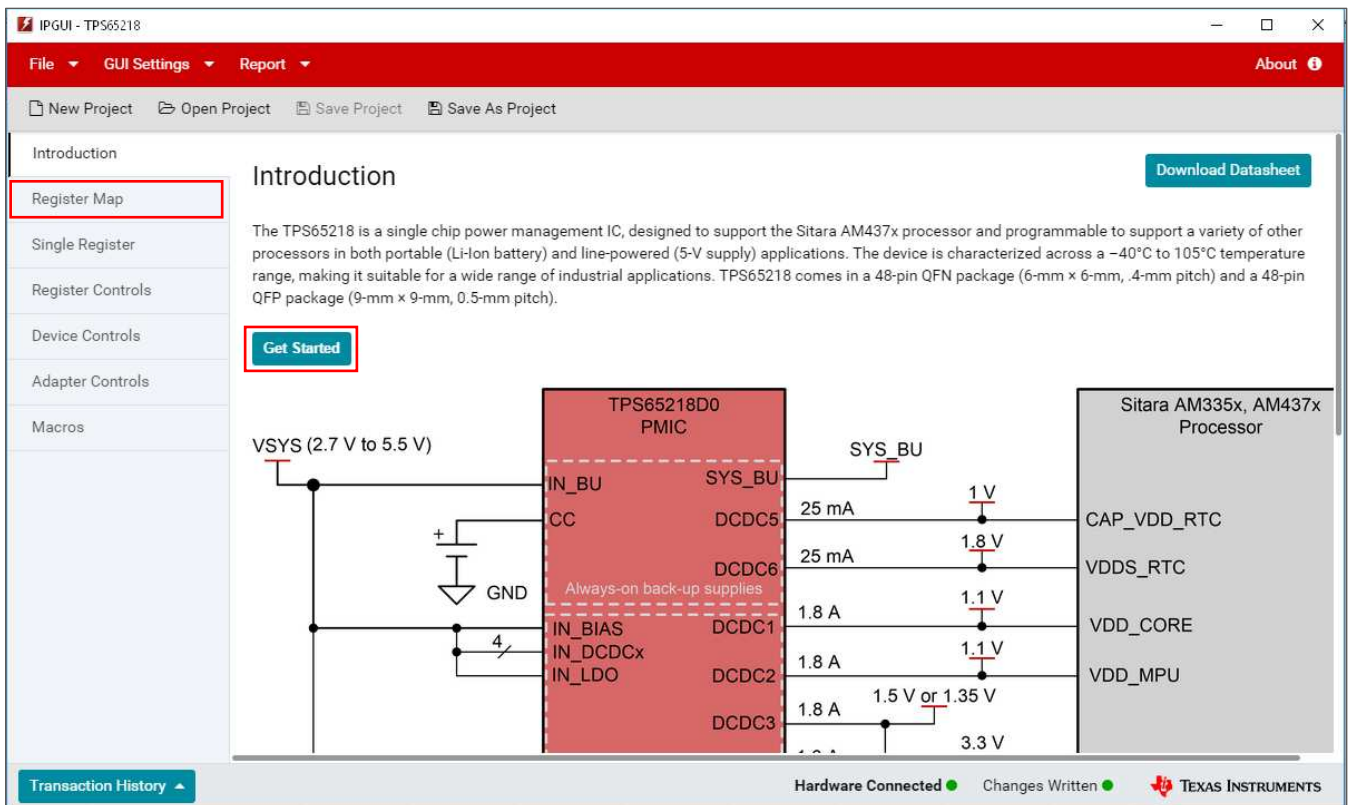

Figure 8. TPS65218D0 Project Introduction Tab in IPG-UI
- The TPS65218 *Introduction* tab is now displayed, as shown in Figure 8. Click the *Get Started* button or the *Register Map* tab to begin communicating with TPS65218D0 device.